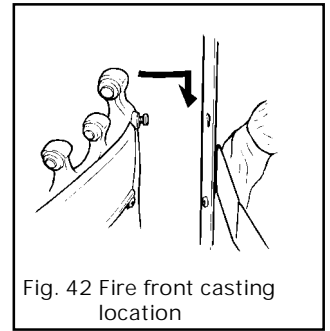

Fig. 42 Fire front casting location
**12.2** Fit the fire front casting to the front surround. Locate the two screw heads at the rear top corners of the casting through the keyhole slots at the inner sides of the surround. If the screw heads do not project enough or project too far, the screws can be adjusted. Lower the casting so that it rests on the hearth (see figure 42).